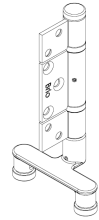

Figure 24:
- D. Install / Set the panel in the 'open' position at a 45 degree angle so the hinge side rests on the block with the receiving panel and the pivot side to recess the intermediate guide into the PVC track in the sill (on the 1/4" shim) (Figure 24).